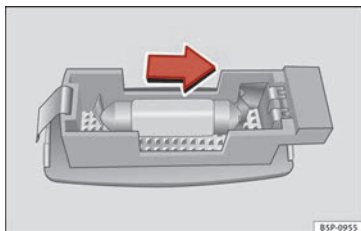

Fig. 201 Removing the sun visor light.
- Carefully remove the lamp, using the flat side of a screwdriver, as shown in the figure » **Fig. 201**.
- Remove the bulb, moving it outward and in the direction of the arrow » **Fig. 201**.